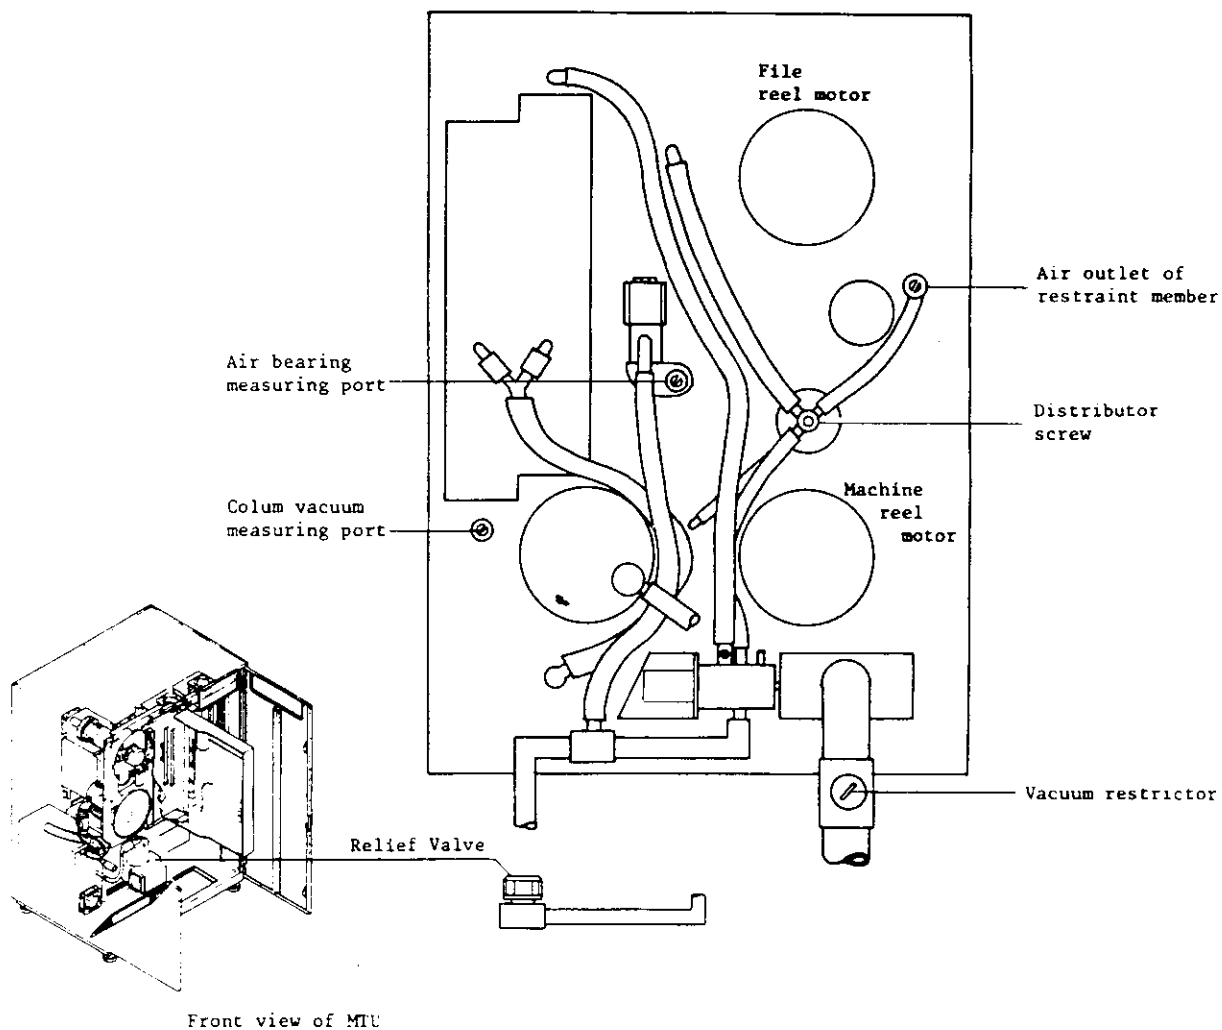

Figure L.49 Air tubes
- (2) Disconnect the air tubes at the location shown in Figure L.49.
- (3) Remove six capacitive sensor mounting screws and remove the capacitive sensor.